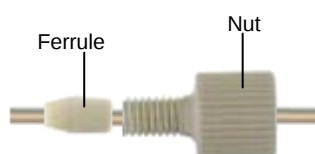

Figure 2. Placement of nut and ferrule on the tubing
3. Use the fittings supplied with the module (pump, mixer, pressure module, valves etc.). Place the nut and then the ferrule on the tubing (see Figure 2).